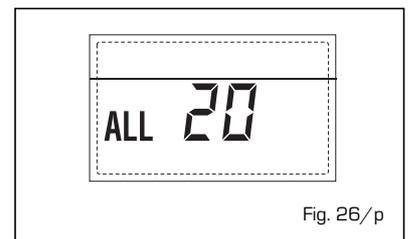

Fig. 26/p
- **ANOMALIA GUASTO SONDA MANDATA PRIMA ZONA MISCELATA "ALL 21"** (fig. 26/q)